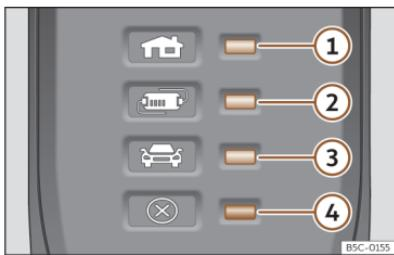

Fig. 77 On the charging cable for power sockets: Indicator lamps on the protection device.
>>> Fig. 77:
The electronic protection device >>> **Fig. 77** ensures that the charging connector does not receive current until it is plugged in to the vehicle's charging connector.
One or more control lamps >>> **Fig. 77** ①, ② or ③ light up green.
Display >>> Fig. 77	Meaning
①, ④ flashing	The housing connector has overheated.
②, ④ flashing	The protection device has overheated.
If the charging process continues with a lower current, both the operating indicator and the warning lamp >>> **Fig. 77** ④ flash red.
- If it disconnects again, or the charging current reduces and the cause does not seem to be exposure to an external heat source, make sure that the green control lamp is flashing >>> **Fig. 77**. Visit a specialised CUPRA dealer or any SEAT network dealer to check the charging cable. Get an establishment that specialises in electrical installations to check the infrastructure connection.
If the red warning light ④ flashes or turns on without one of the indicator lamps >>> **Fig. 77** ①, ② or ③ also turning on continuously on the status indicator, there is a fault.